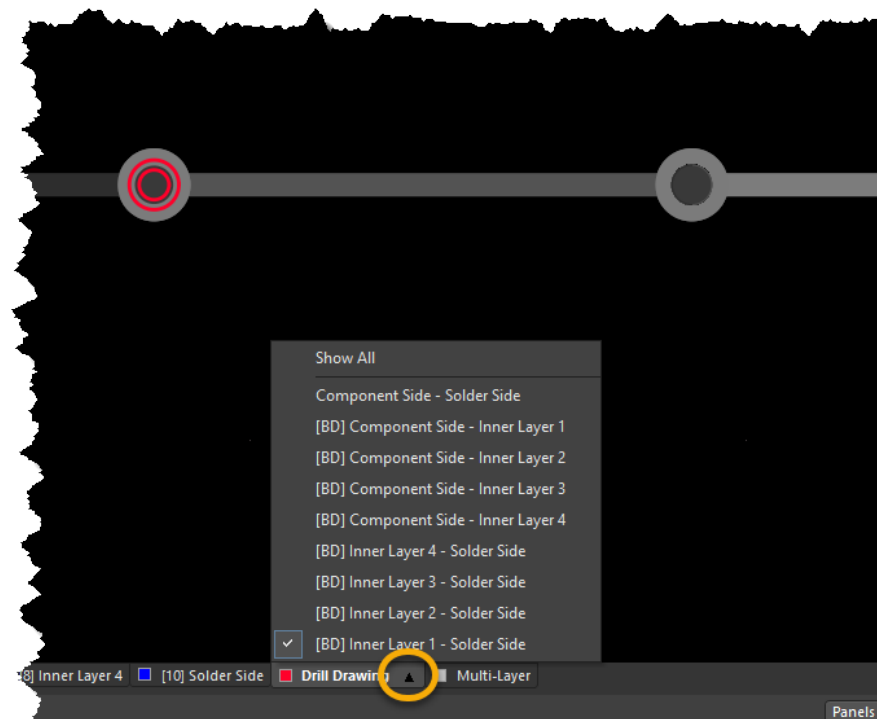

Figure 17. Configuration for Drill Drawing
24. Change to 2D mode, activate the Drill Drawing layer (**View Configuration - L**) and now you can control the visibility for the Drill Symbols by clicking on the **up-arrow** icon beside the layer tab, Figure 17.